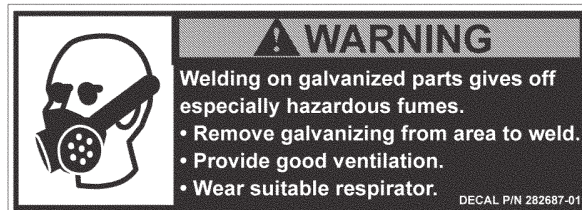

FIG. 7-1
- Welding on galvanized parts gives off especially hazardous fumes. Comply with **WARNING** decal on the galvanized part (**FIG. 7-1**). To minimize hazard remove galvanizing from weld area, provide adequate ventilation, and wear suitable respirator.